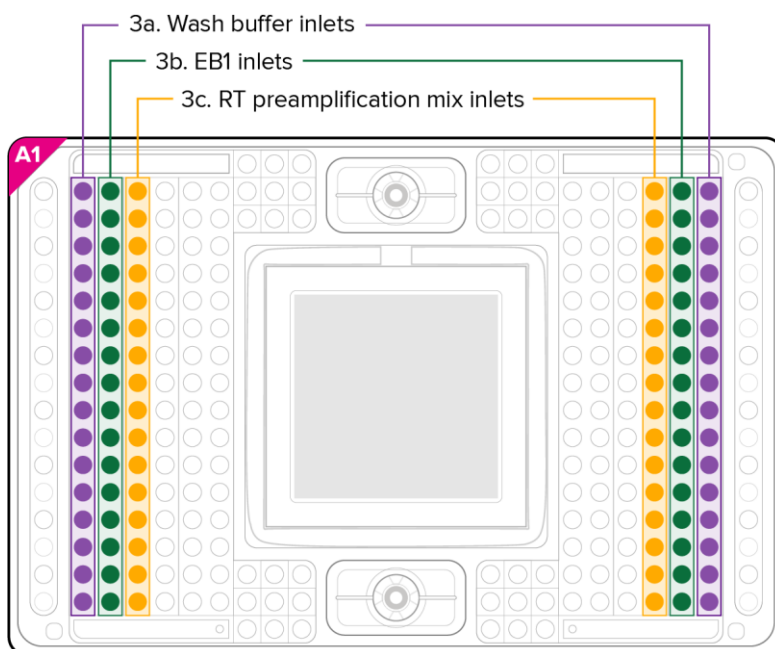

Figure 9. Pipetting buffers and RT preamplification mix for the 96.16 IFC
- 3** Pipet the buffers and RT preamplification mix into the IFC in the following order, as shown in Figure 9.